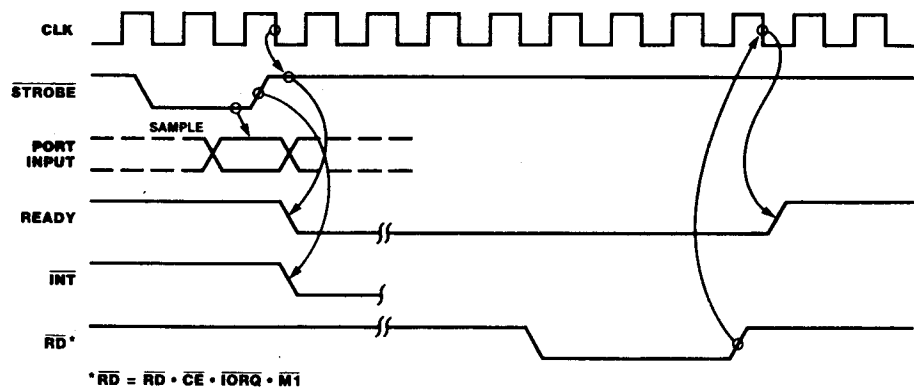

Figure 15. Mode 1 Input Timing
**Input Mode (Mode 1).** When  $\overline{\text{STROBE}}$  goes from Low to High, data is latched into the selected port input register (Figure 15). While  $\overline{\text{STROBE}}$  is Low, the input data latches are transparent. The next rising edge of  $\overline{\text{STROBE}}$  activates  $\overline{\text{INT}}$ , if Interrupt Enable is set and this is the highest-priority requesting device. The following falling edge of CLK resets Ready to an inactive state, indicating that the input register is full and cannot accept any more data until the CPU completes a read. When a read is complete, the positive edge of  $\overline{\text{RD}}$  sets Ready at the next Low-going transition of CLK. At this time new data can be loaded into the PIO.